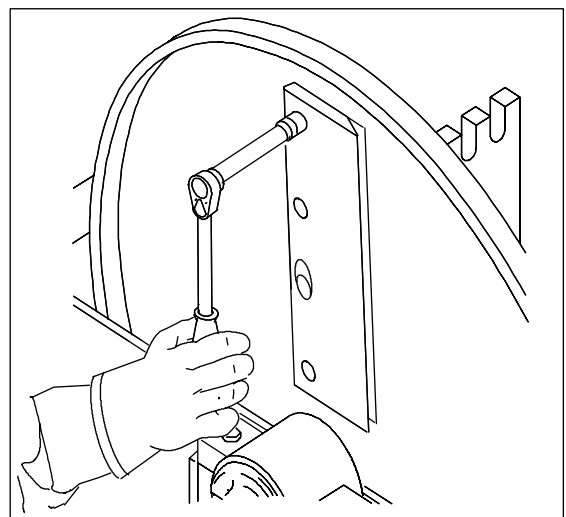

Fig. 12. Removing the knife fastening bolts
2. Remove the knife fastening bolts (M10). Turn the wrench in such a way that your hands would not hit the knife if the wrench should slip. Fig. 12.